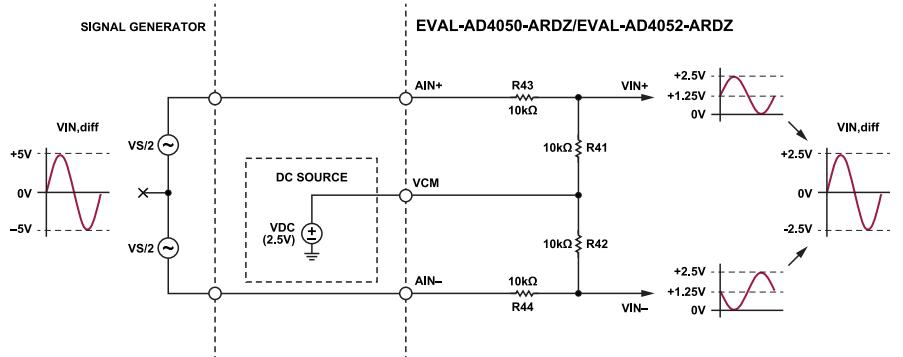

Figure 15. Floating Differential Signal Generator Example
- ▶ For signal generators with floating, differential outputs, the VCM input provides a means to apply the necessary DC offset to satisfy the input range specification of the MAX44260 amplifiers. Figure 15 gives an example with a 2.5 V VREF and amplifiers in unity-gain configuration. The differential input swing (VIN,diff) is 5 V peak or 10 V p-p and VCM is 1.25 V DC.